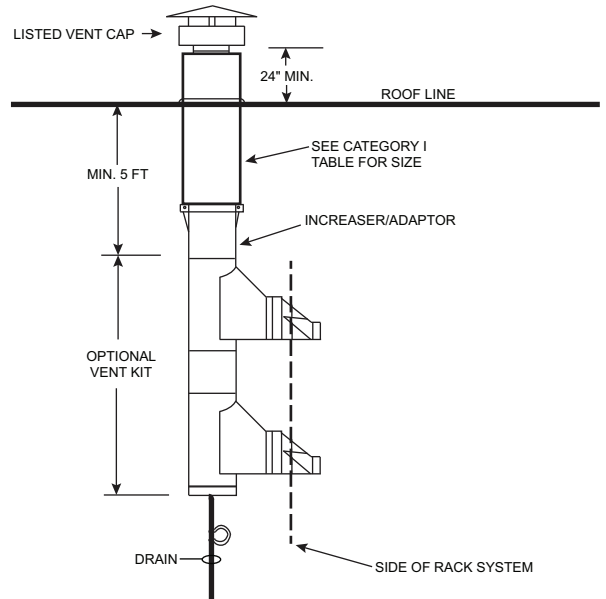

Fig. 149 — Category 1 Indoor Vertical Vent System
- See Fig. 149 for Category 1 indoor vertical vent system.